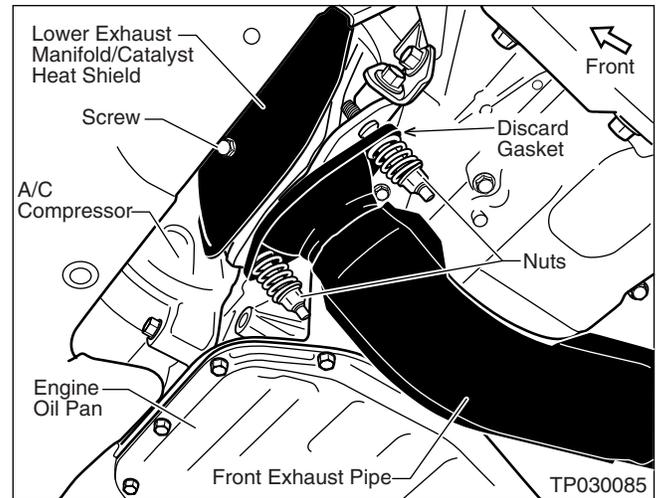

Figure D1
1. Remove the two nuts that secure the Front Exhaust Pipe to the Exhaust Manifold/Catalyst (see Figure D1). Discard the old gasket as you'll be installing a new one later.